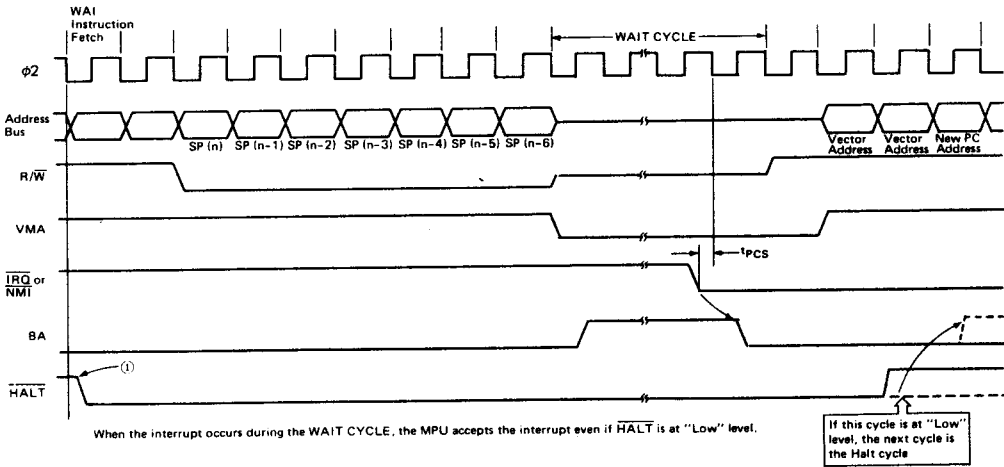

Figure 39 HD6800 WAIT CYCLE &  $\overline{\text{HALT}}$  Request
The "Halt" signal is not accepted after the fetch cycle of the WAI instruction (See ① in Fig. 39). In the case of the "WAI" instruction, the MPU enters the "WAIT" cycle after stacking the internal registers and